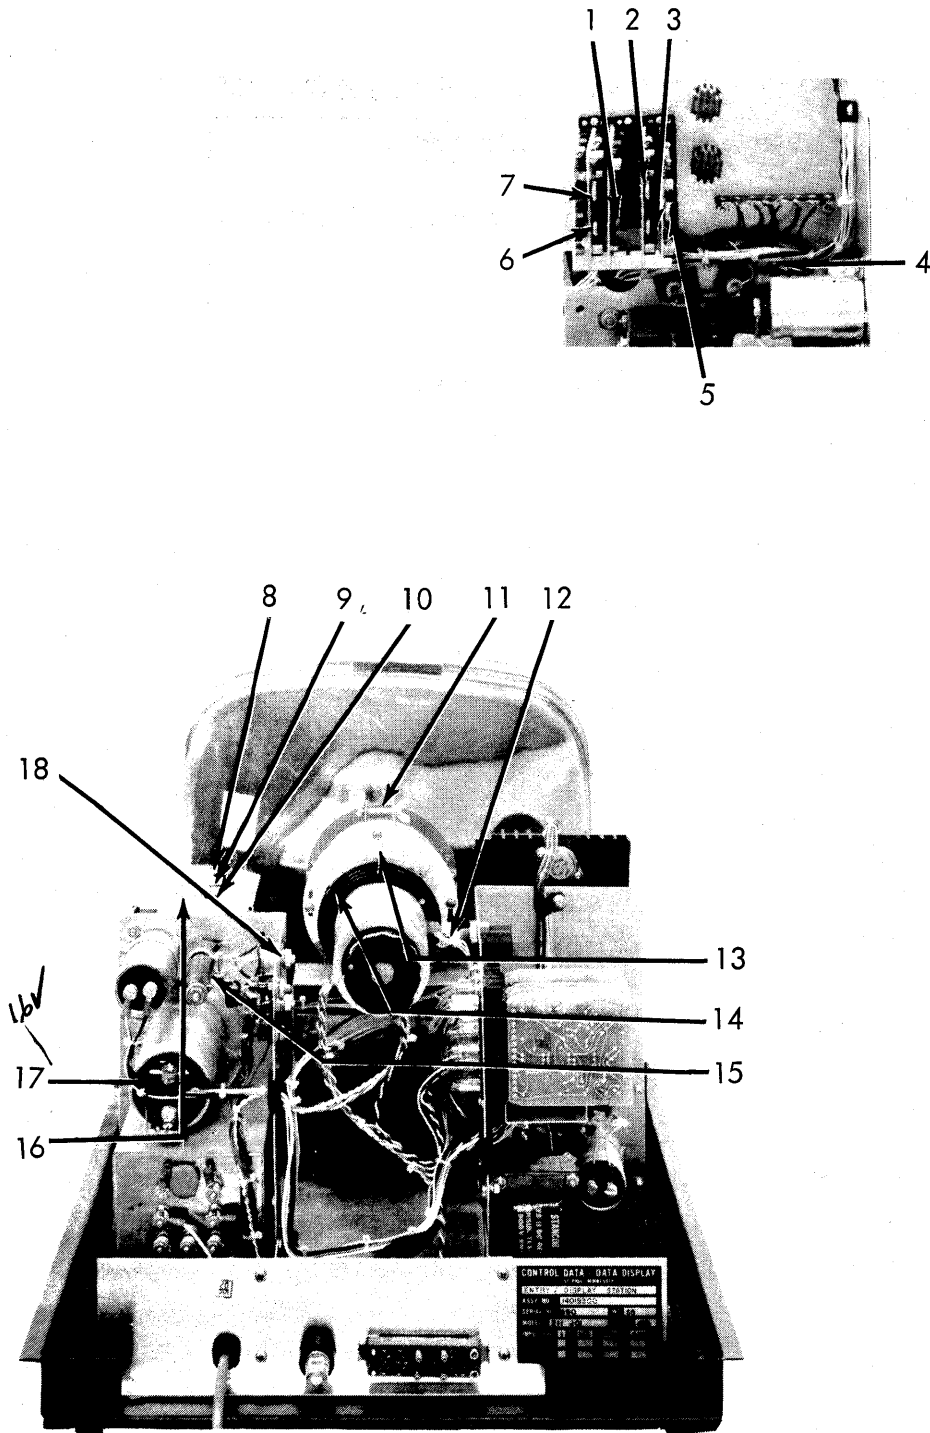

Figure 6-1. Display Station Adjustment Points
- c. Measure between pin 1 of R1 on the deflection assembly (callout 12, figure 6-1) and ground for +12 volts. Tolerance is ± 3 percent.
- c. Measure the voltage from the positive terminal of capacitor C2 (callout 17, figure 6-1) and ground for +16 volts. Tolerance is ± 1 volt.
Maintenance adjustments in the Display Station consist of voltage adjustments, crt display adjustments, and alert audible alarm volume control. Normal adjustment of each maintenance control is made during initial installation of the equipment. These adjustments should not need resetting unless a component is replaced or display deterioration occurs. Table 6-2 lists Display Station adjustment controls and potentiometers (pot's.). Figure 6-1 shows the location of these controls.
Numbers in parentheses refer to callouts on figure 6-1.